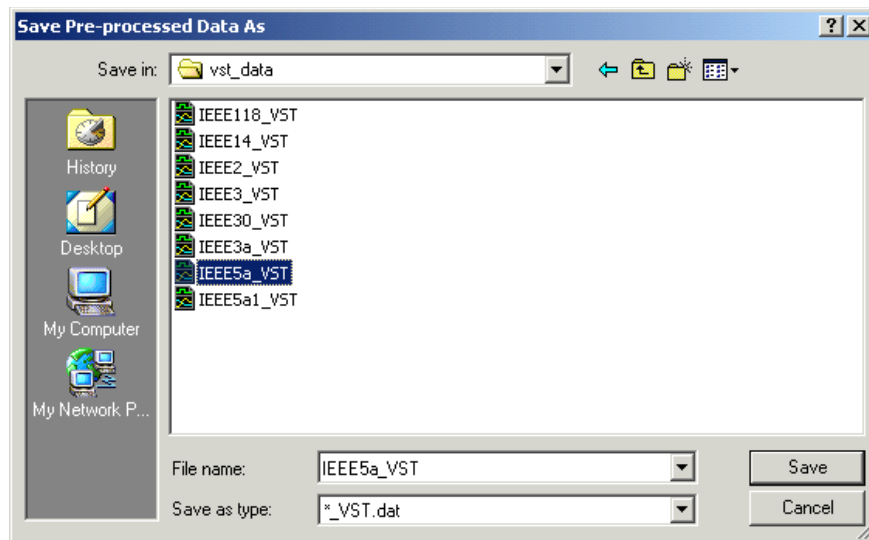

Fig. A.12 The Save dialog box
- This will activate the Save dialog box shown in Fig. A.12.